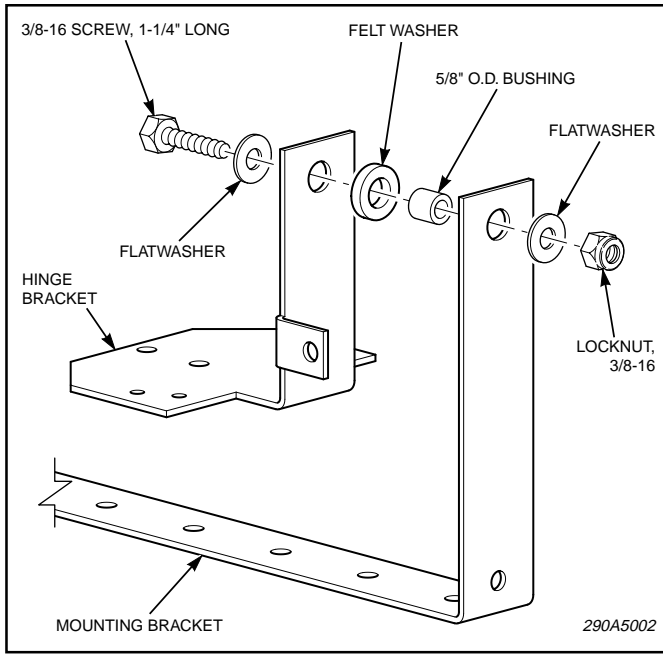

Figure 1.
2. Assemble the hinge brackets to the mounting base. See figure 1 for the order that the parts are to be arranged. The felt washer is to be placed between the hinge bracket and mounting base. Soak the felt washer in light oil before assembling.